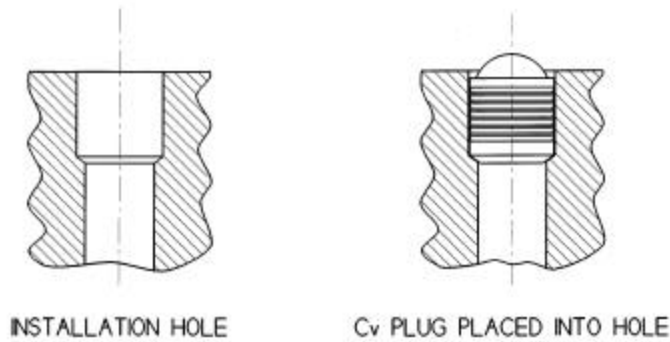

FIGURE 2
- 5.1. Place the one piece Cv Plugs assembly into the installation hole so that it contacts the shoulder at the bottom of the hole. The plug must be flush with or any distance below the surface of the part. See Figure 2.